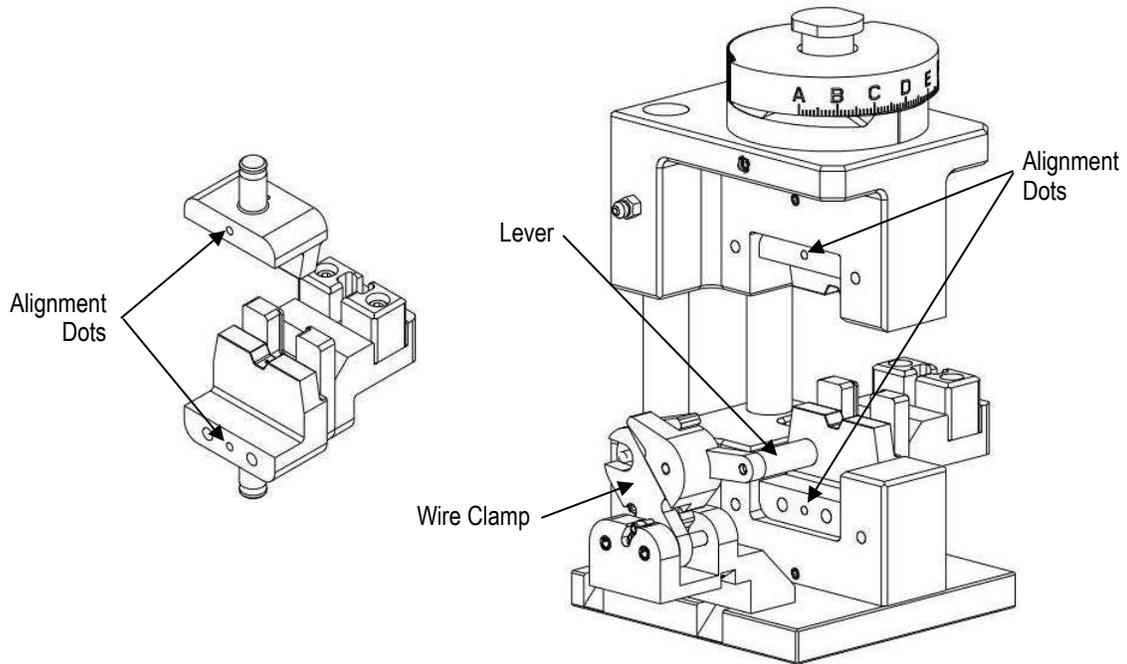

Figure 2
- The alignment dots are facing the Wire Clamp on the Modular Tool Holder (see Figure 2).
2. Open the Wire Clamp by pressing down on the Lever (see Figure 2.)